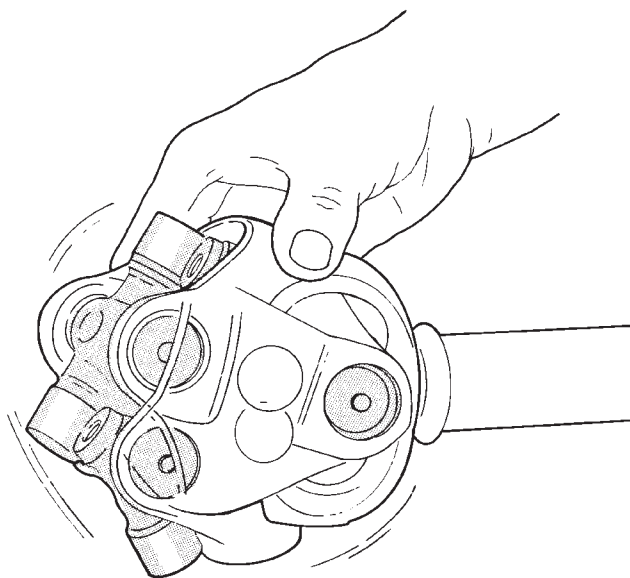

Fig. 33 Check Assembly
(13) Check for proper assembly. Flex the joint beyond center, it should snap over-center in both directions when correctly assembled (Fig. 33).
(14) Install the propeller shaft.